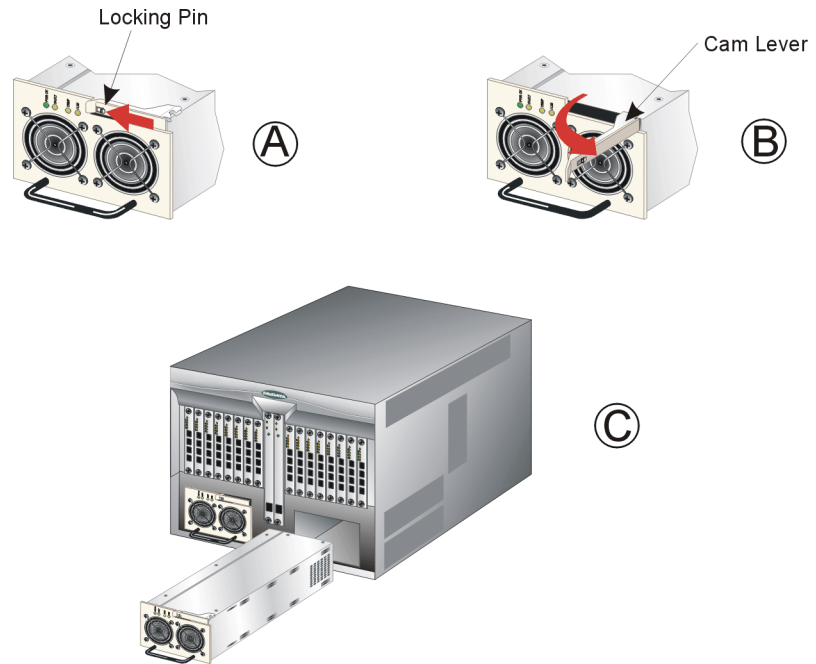

Figure 5-9 Power Supply Removal and Replacement
5. Push the locking pin to the left to release the cam lever at the top of the power supply (Figure 5-9, part A).
6. Pull the cam lever out and to the right to cam the power supply out of the director chassis (Figure 5-9, part B).
7. Pull the power supply from the director (Figure 5-9, part C). Support the power supply with one hand.
3. Orient the power supply with the cam lever disengaged and pulled out (Figure 5-9).